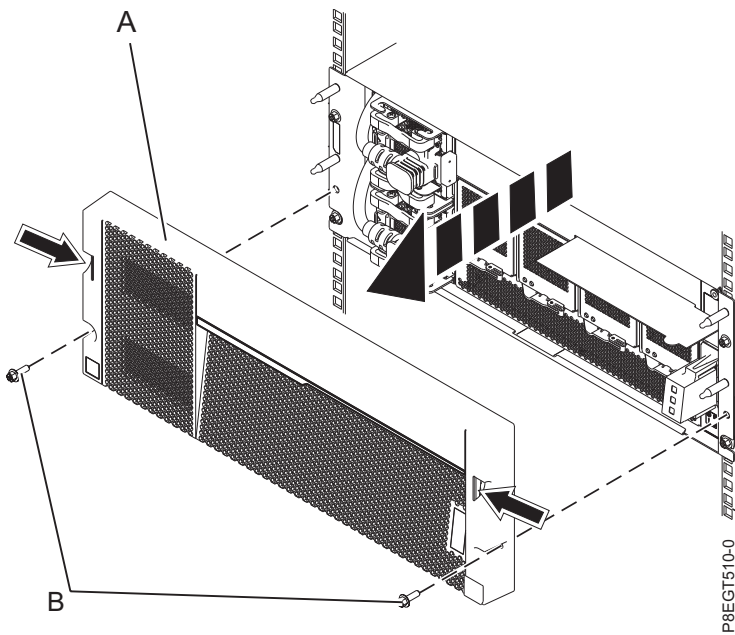

Figure 5. Removing the front cover
- a. Remove the front cover (A) from the EMX0 PCIe3 expansion drawer by removing the screws (B), then pull off the cover by using your fingers. See Figure 5.